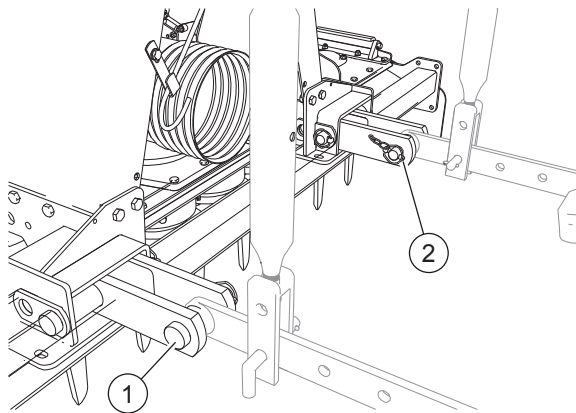

FIG. 22
- Move the power-lift bars to the lower hitches ("Fig. 22"). Insert the attachment pins (1). Fasten the pins with the trigger pins (2) part of standard equipment.